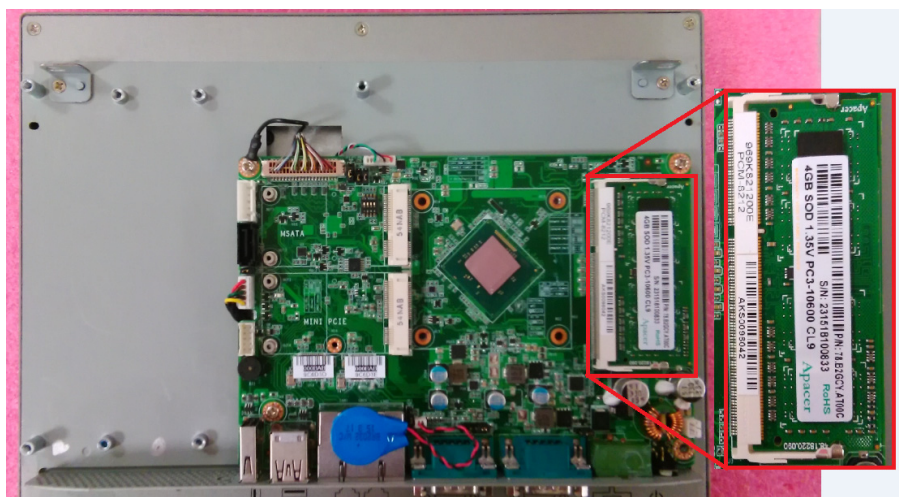
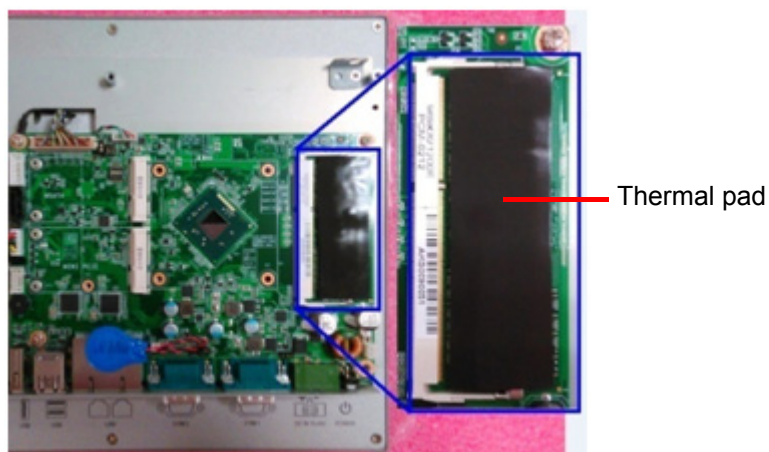

Figure 2.6 Memory card installation
Figure 2.7 Thermal pad placed on the memory card
2. Insert the memory card into the corresponding slot on the main board (see the area marked in red in Figure 2.6). Then place the memory thermal pad provided in the accessory box on top of the memory card (Figure 2.7).
Warning! Ensure that the thermal pad (provided in the accessory box) is placed on top of the memory card, as shown in Figure 2.7.